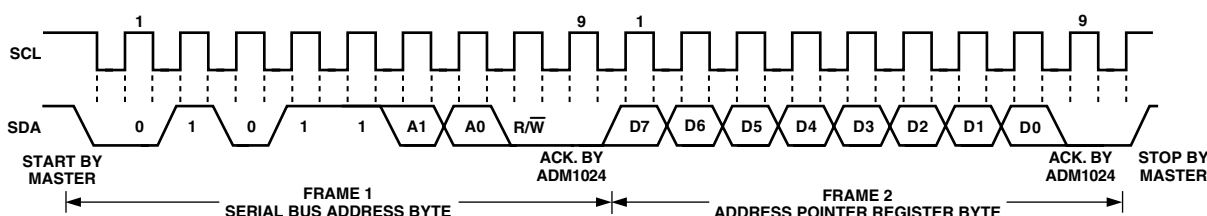

Figure 2b. Writing to the Address Pointer Register Only
1. If the ADM1024's Address Pointer Register value is unknown or not the desired value, it is first necessary to set it to the correct value before data can be read from the desired data register. This is done by performing a write to the ADM1024 as before, but only the data byte containing the register address is sent, as data is not to be written to the register. This is shown in Figure 2b.
- If the Address Pointer Register is known to be already at the desired address, data can be read from the corresponding data register without first writing to the Address Pointer Register, so Figure 2b can be omitted.